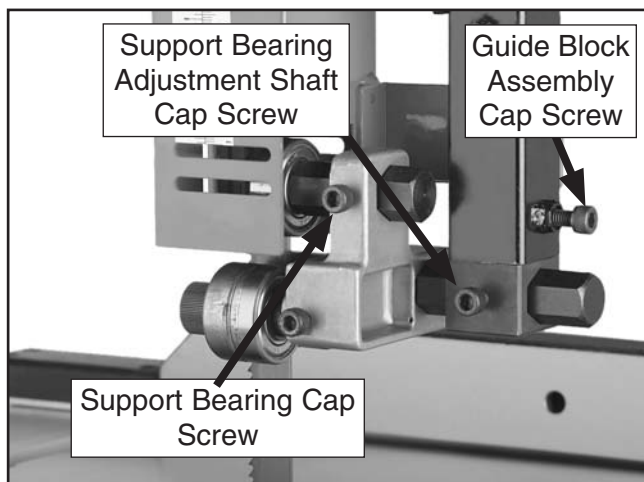

Figure 50. Upper support bearing controls.
3. Familiarize yourself with the upper support bearing controls shown in **Figure 50**.